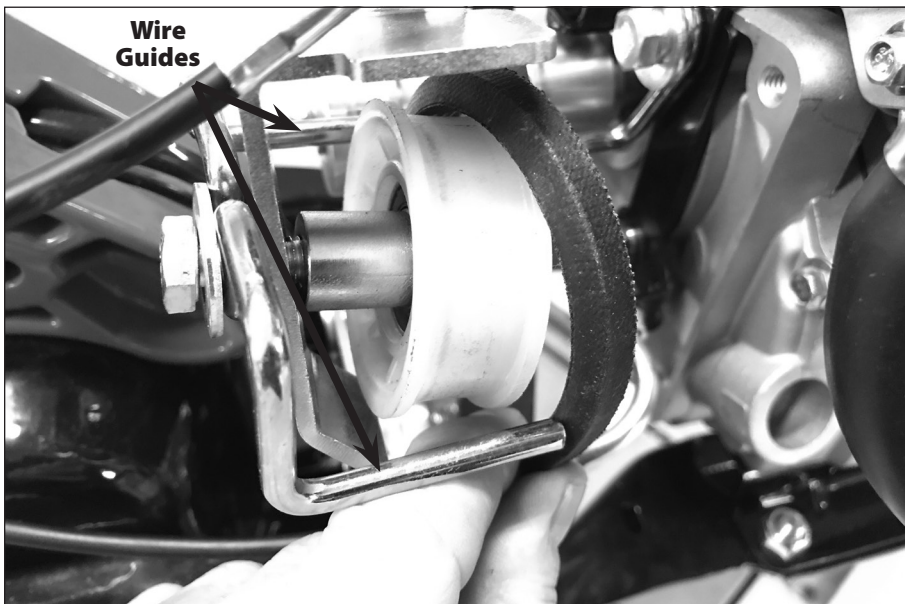

Figure 8
6. Pull reverse arm away from engine pulley. Loosen the reverse idler pulley from the reverse arm enough to free up the reverse belt for removal using two 13mm wrenches. SEE FIGURE 8
4. Slide reverse belt onto reverse arm idler pulley between wire guides and rest against engine pulley reverse groove. SEE FIGURE 8